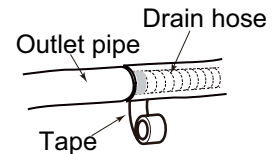

Fig.9
- (2) Bind the joint with tape. (As show in Fig.9)